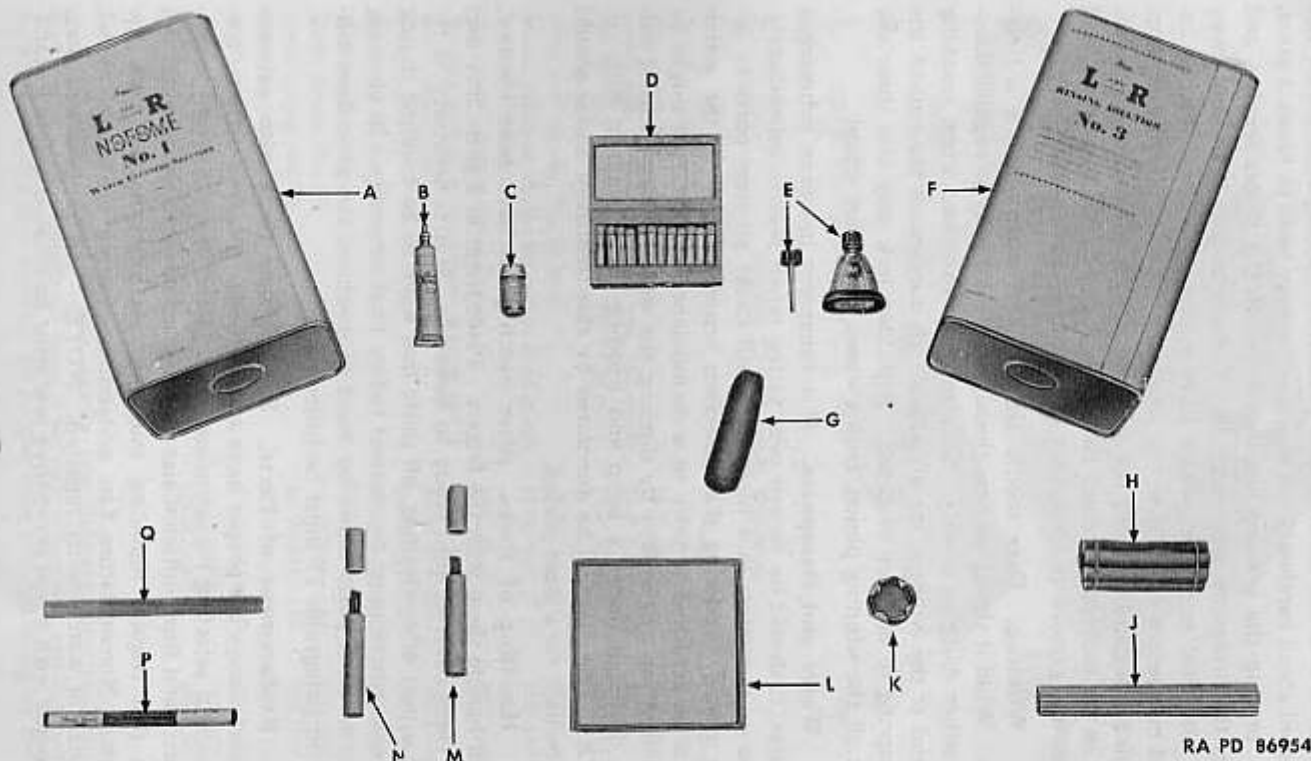

Figure 22 — Watch Repair Set (Senior) No. 1 Supplies
c. Fifth-echelon Supplies (fig. 22).
Legend for Figure 22 — Watch Repair Set (Senior) No. 1 Supplies